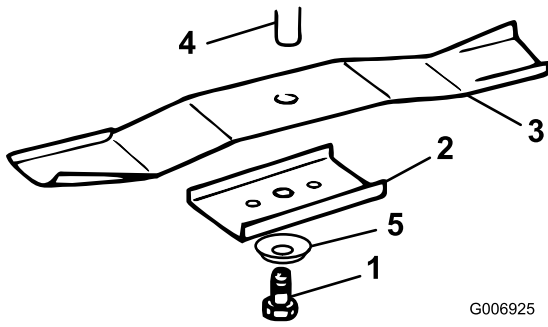

Figure 30
3. Remove the bolt (5/8 inch wrench), curved washer, retainer, and blade (Figure 30). Use a block of wood as a wedge between the blade and the mower to lock the blade when you are removing the bolt.
1. Install each blade, blade retainer, curved washer (cupped side toward blade), and the blade bolt (Figure 30).